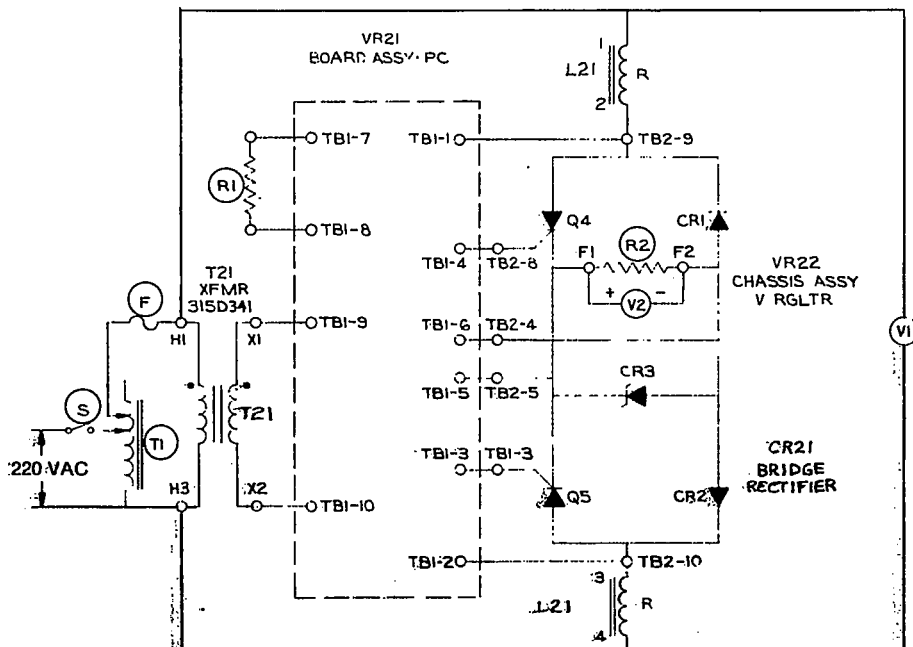

FIGURE 27. STANDARD VOLTAGE REGULATOR TEST SCHEMATIC
1. Connect the test equipment to the regulator as shown in Figure 27.